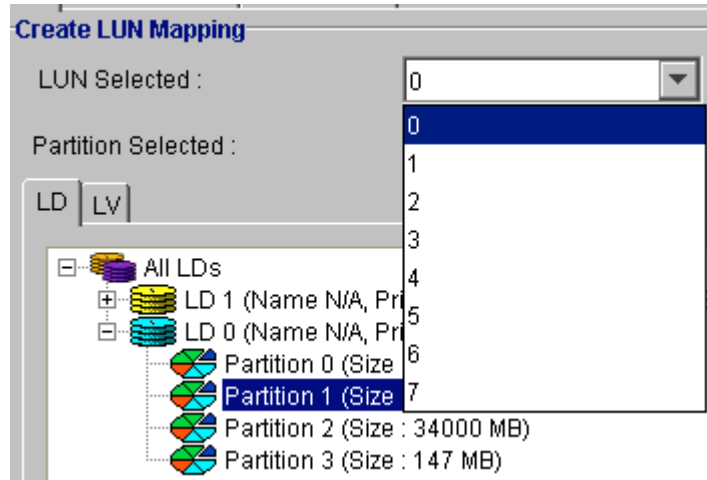

Figure 9-15: Selecting LUN ID
Step 7. From the **LUN Selected** drop-box shown in *Figure 9-15*, choose the LUN ID to assign. Only unused IDs will be listed.